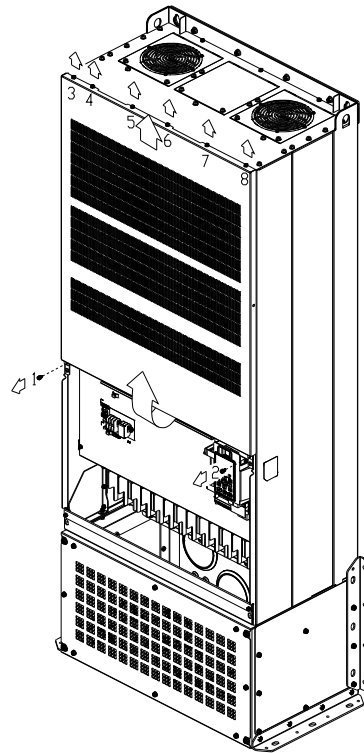

Figure 2
2. Loosen the screw 1~8 and remove the top cover (figure 2).